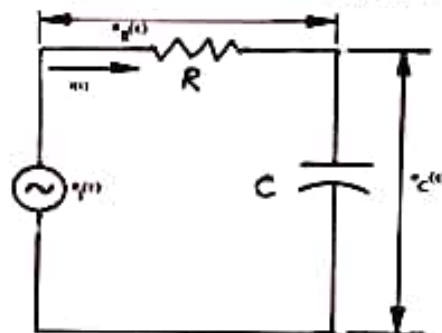

Fig.4.8.
**Q.4.1.** Find system transfer function between voltage drop across the capacitance and input voltage in the following RC circuit as shown in Fig.4.8.